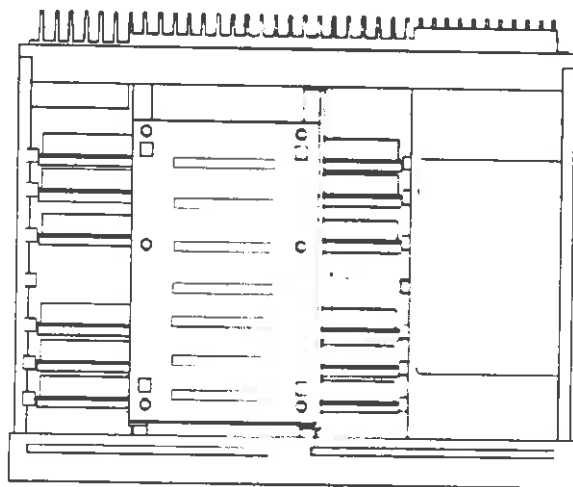

Fig. 4-1 Location of the socket X165 (instrument seen from below)
- ▶ Connect the frequency counter (error $< 1 \times 10^{-8}$) to the socket X165 (fig. 4-1).